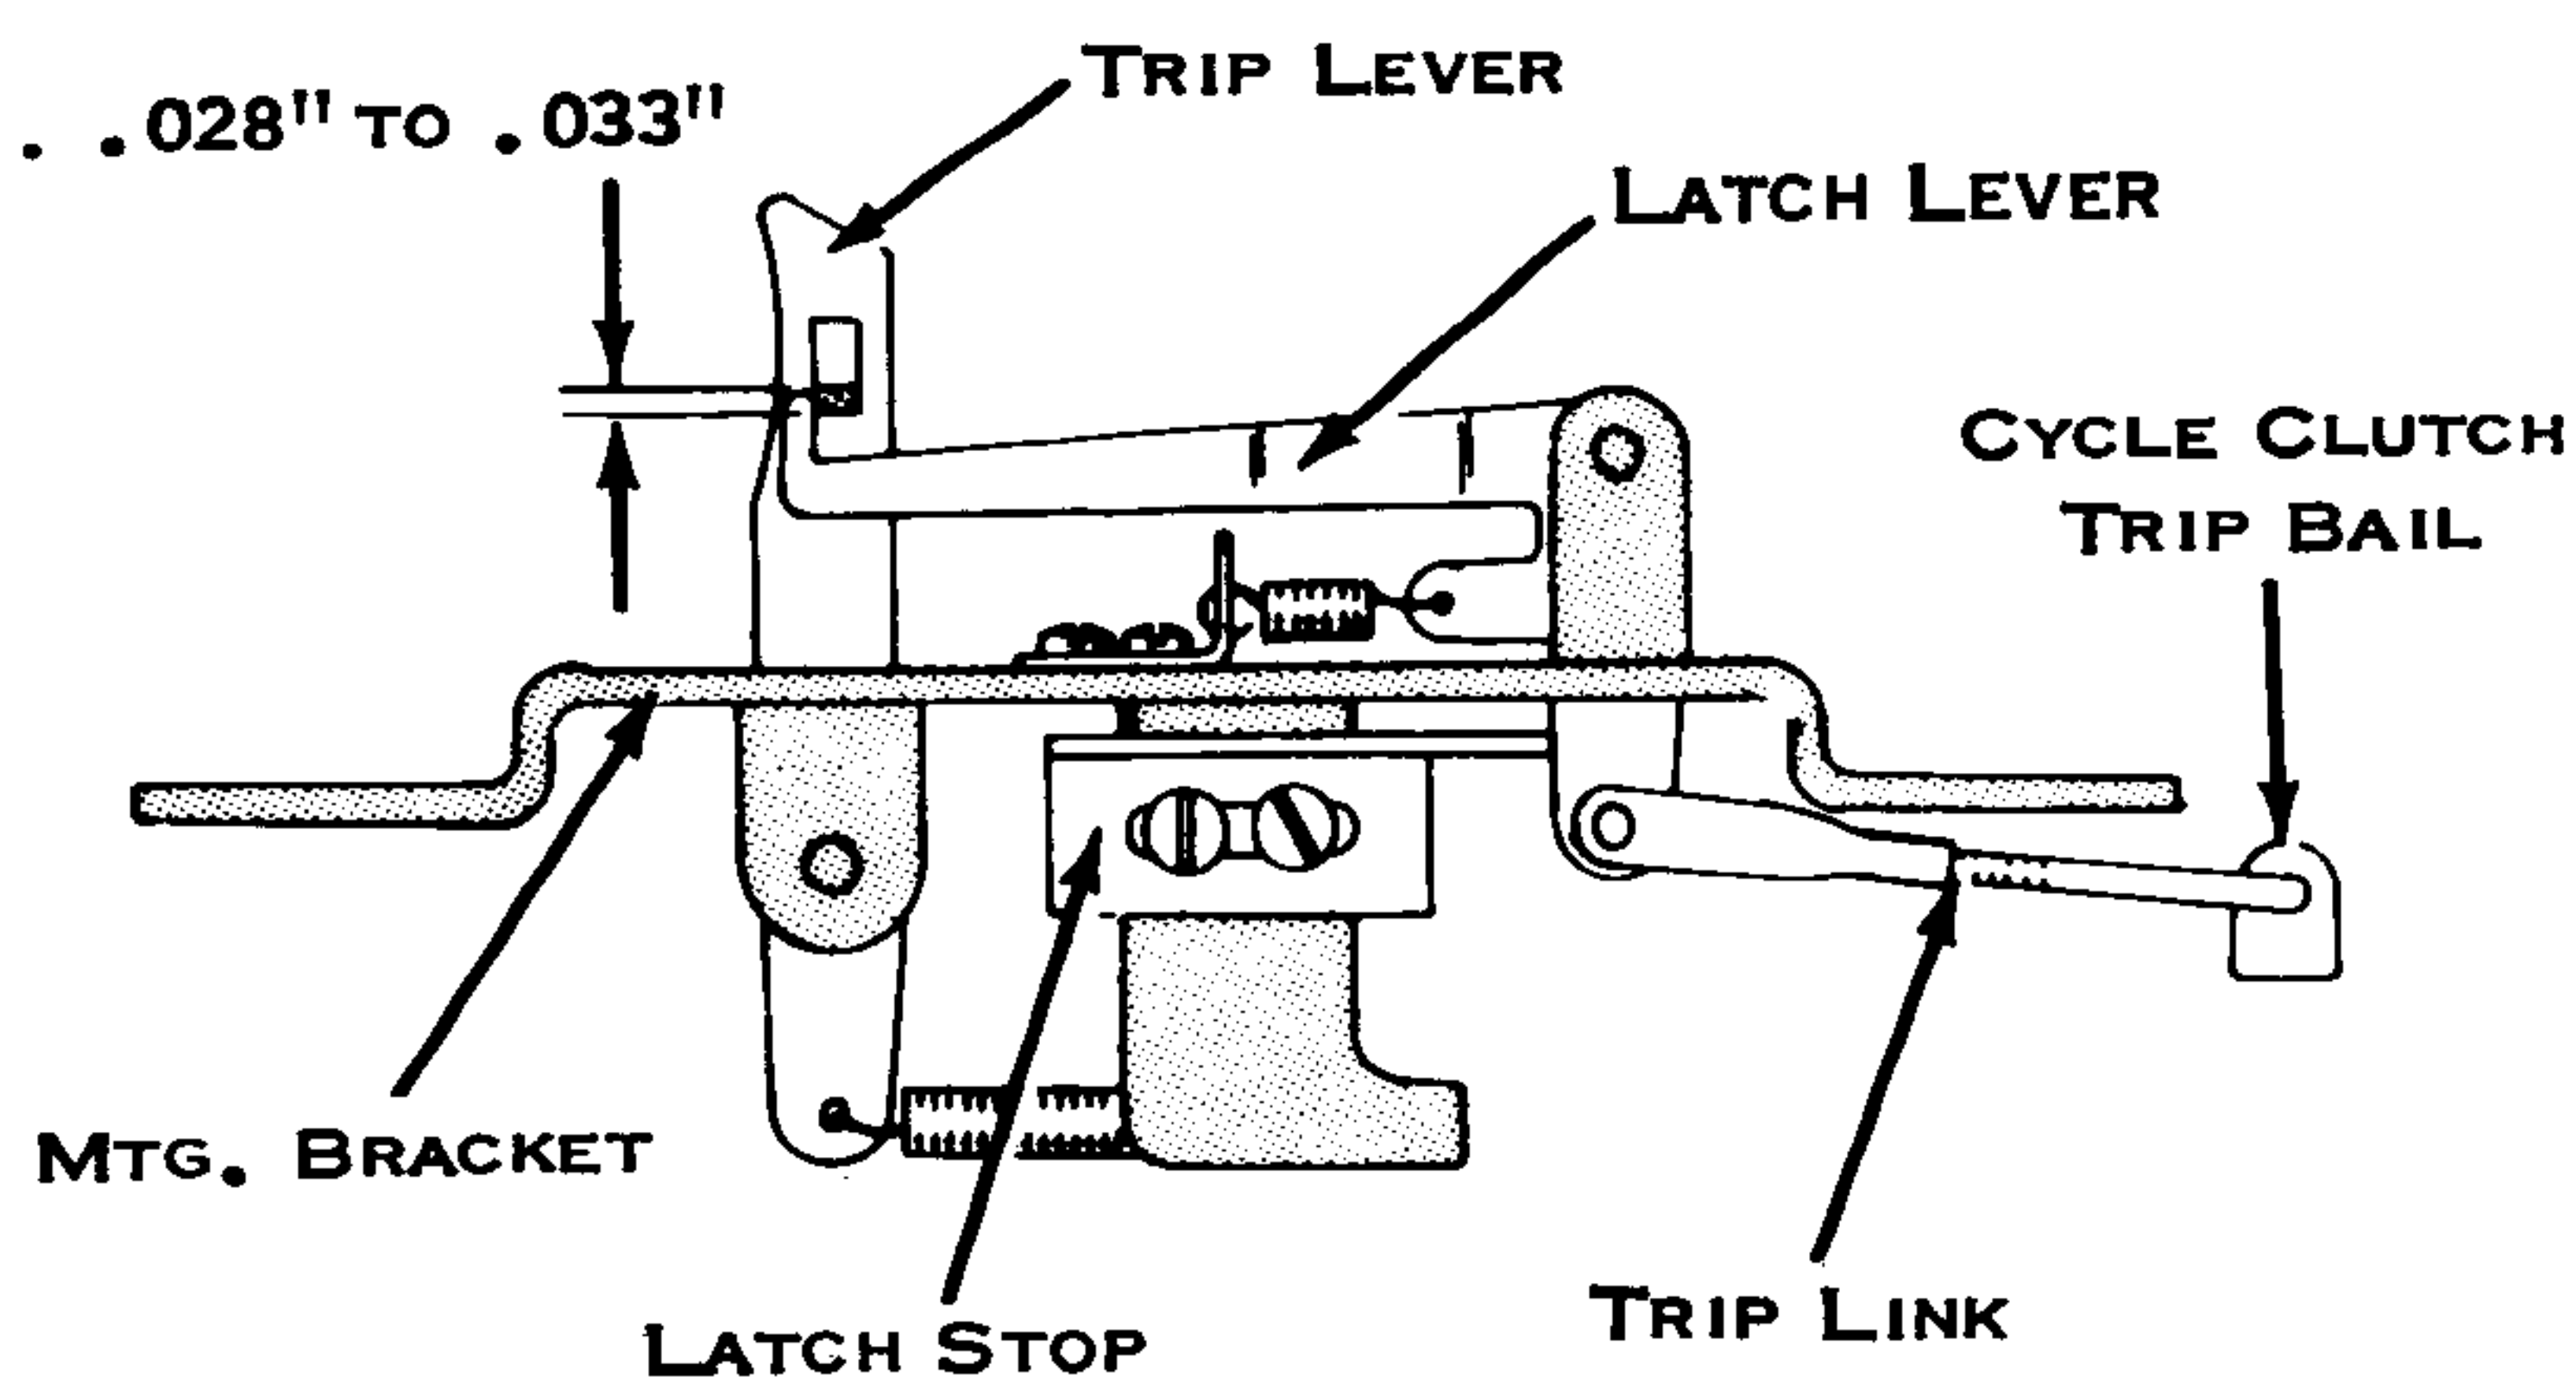

Figure 28. Latch Lever
1. Latch Stop (Fig. 28) - Position so that the latch lever overlaps the trip lever lug by .028" to .033".
3. Trip Link Clevis (Fig. 29) - With either the T2 or R5 armature manually attracted, adjust the clevis so that the latch lever overthrows the trip lever lug by .005" to .020" (Ref. Fig. 28).